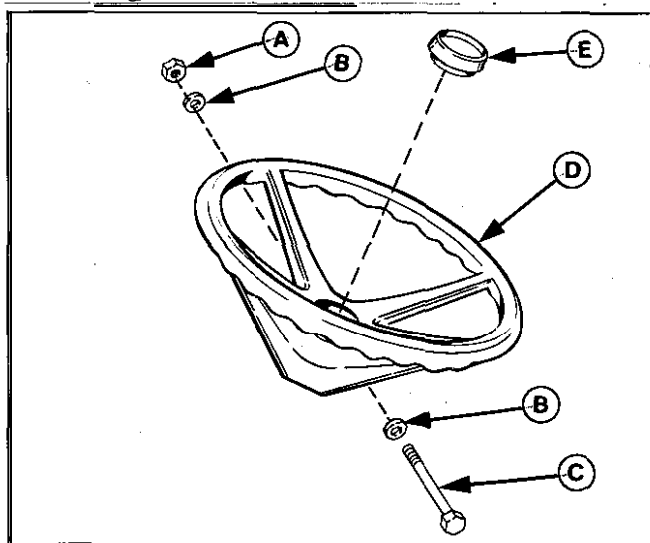

Figure 7. Steering Wheel
19. Remove nut (A, figure 7), flatwashers (B) and **capscrew** (C) securing steering wheel to shaft. Pull **steering wheel off shaft.**
30. Reinstall **capscrew** (C, figure 7), flat washers, and locknuts to secure steering wheel. Torque nut to 10 ft. lbs.